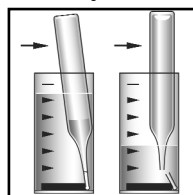

Figure 3
3. Place the ampoule in the sample cup. Snap the tip by pressing the ampoule against the side of the cup. The ampoule will fill leaving a small bubble to facilitate mixing (fig 3).